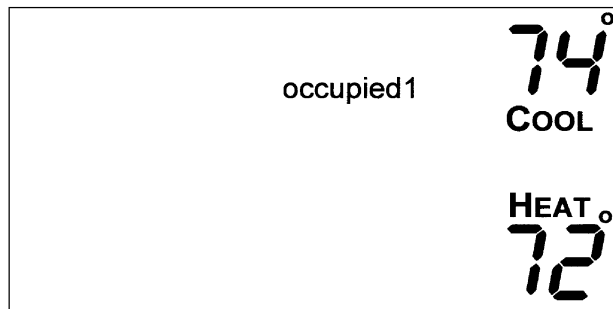

Fig. 4 — Setting Occupied 1 Set Points
2. The cooling set point for Occupied 1 will be displayed. Use the UP ARROW and DOWN ARROW buttons to raise or lower the cooling set point until the desired temperature is shown. The range of acceptable values is 35 to 99 F (1 to 37 C). Press the Mode button to continue. See Fig. 4.
3. The heating set point for Occupied 1 will be displayed. Use the UP ARROW and DOWN ARROW buttons to raise or lower the heating set point until the desired temperature is shown. The range of acceptable values is 35 to 99 F (1 to 37 C). Press the Mode button to continue. See Fig. 4.